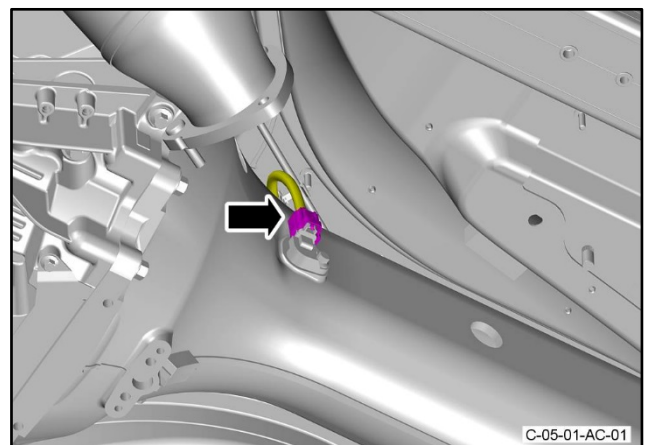

Figure 40
- 80. Connect the electrical connector to the speed sensor for the propeller shaft (refer to Figure 40).